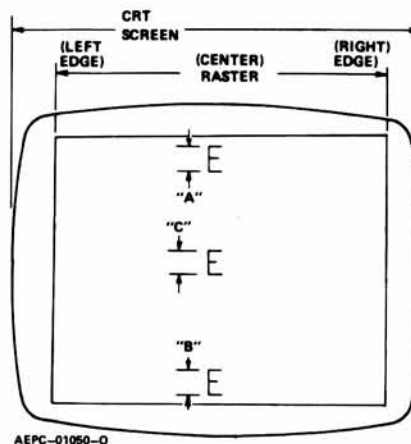

Figure 1. Partial CRT Display of Characters for Vertical Linearity Adjustment
- Step 2. (Refer to Figure 1.) Adjust the Vertical Linearity control (R211) until the extreme top and bottom characters (designated "A" and "B") are equal in height to the center characters (designated "C").